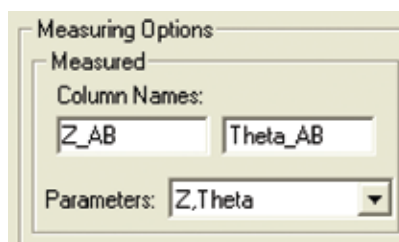

Figure 1
2. In the Force Function/Measure Options window, set the Measured Options Parameters to "Z,Theta" as shown in **Figure 1**.